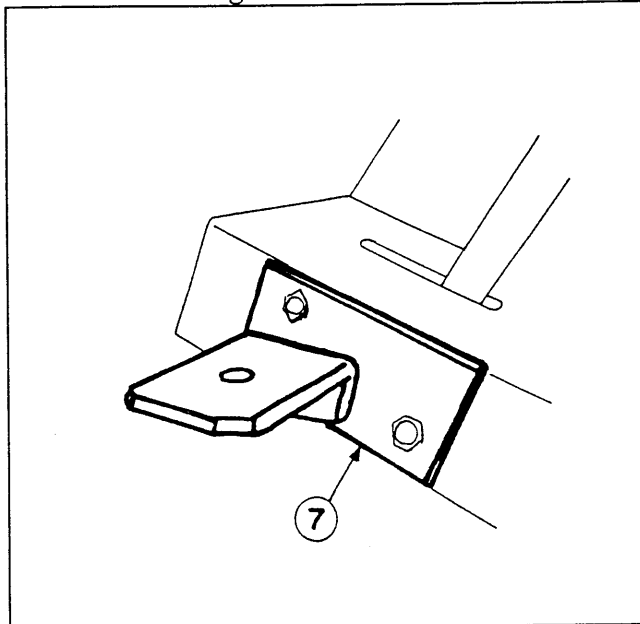

Figure 8
15. Take the left front bracket (7) and position it against the outside of the two-hole bolt pattern in the operator foot platform side, with the cab mounting plate to the front and outside. Loosely bolt the bracket, through the platform, to the support using the 1/2"x1 1/2" hex bolts, hex nuts, and lockwashers (see Figure 8).